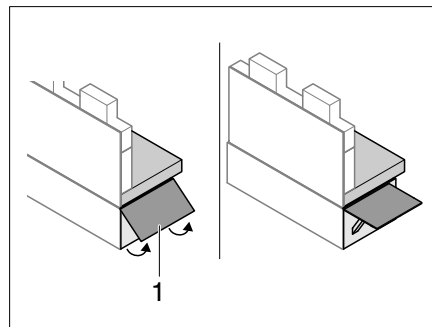

Fig. 147 Folding out bench seat extension
- Fold up bench seat extension (Fig. 147,1).
- Slide in the release button and fold in the bench seat extension (Fig. 147,1).